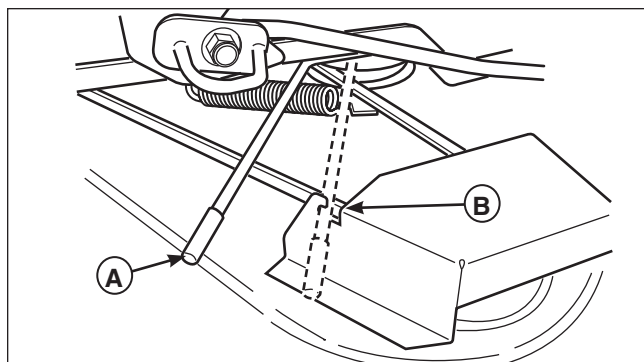
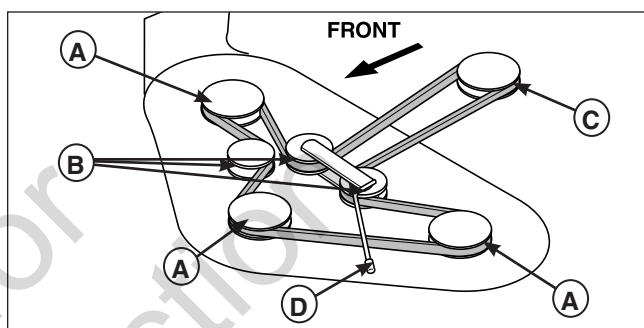
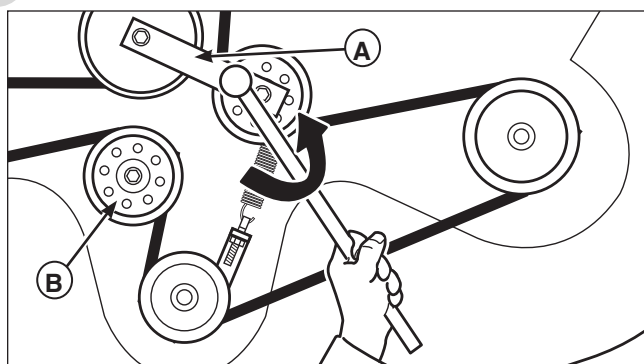

Figure 9. Release Belt Tension (44", 46" & 52" Models)
Figure 10. Mower Belt Routing
Figure 11. Release Belt Tension (54" Models)
44" & 50" Mower Decks: Pull the lever (A, Figure 9) towards the rear of the machine to release tension on the mower belt. Secure the lever in the guard notch (B) and remove the mower belt from the PTO pulley (C, Figure 10).
46" Mower Decks: Pull the lever (A, Figure 9) towards the rear of the machine to release the tension on the mower belt. Remove the mower belt from the PTO pulley (C, Figure 10).
- a. Using a 1/2" breaker bar, place the square end in the square hole located in the idler arm (A, Figure 11). Carefully rotate the breaker bar COUNTER-CLOCKWISE, which will relieve the tension on the belt exerted from the idler arm. Slide the belt off of the stationary idler pulley (B).
- c. Remove the belt from the PTO pulley (C, Figure 10).
- a. Install the belt as shown in Figure 10.
- b. Release tension from the tensioning idler pulley using the belt tension lever (D) and make sure the belt is seated properly in all pulleys.
- a. Install the belt on the arbor pulleys (A, Figure 10), back-side idlers (B) as shown in Figure 9.
- b. Rotate the belt tension release lever (D) to relieve the tension on the belt and install the belt on the PTO pulley (C)
- a. Install the belt on the PTO pulley (C, Figure 10), the arbor pulleys (A), and all back-side idlers (B) except for the stationary idler pulley (B, Figure 11).